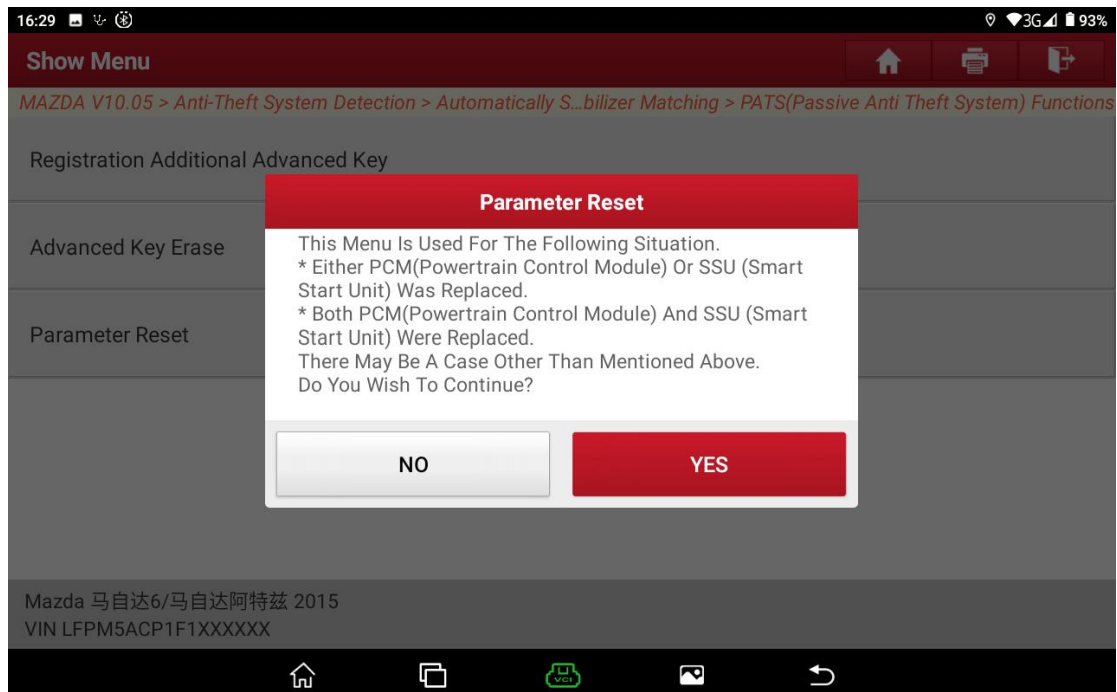

Figure 10
8. The function execution conditions are displayed. Choose [No] to exit the function, or choose [Yes] to access the next step. See Figure 10.